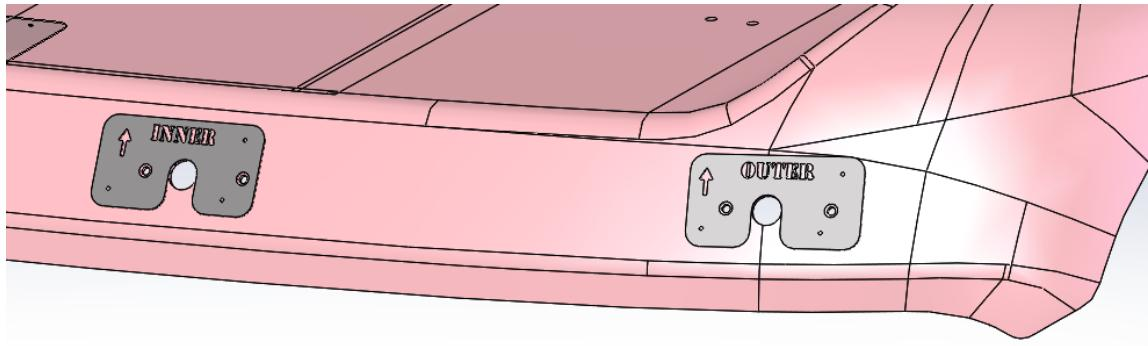

Figure 2: Correct Orientation of Drill Templates (Driver Side Shown)
3. Using the supplied 10-32x1/2" truss head screws and fender washers, install the Inner / Outer drill templates onto the roof on the driver side. The two larger holes on each template will fit snugly around the OEM nuts/sets left from the roof lights with the arrow cutout pointing upwards, & the text should be readable. Reference Figure 2 for correct orientation.